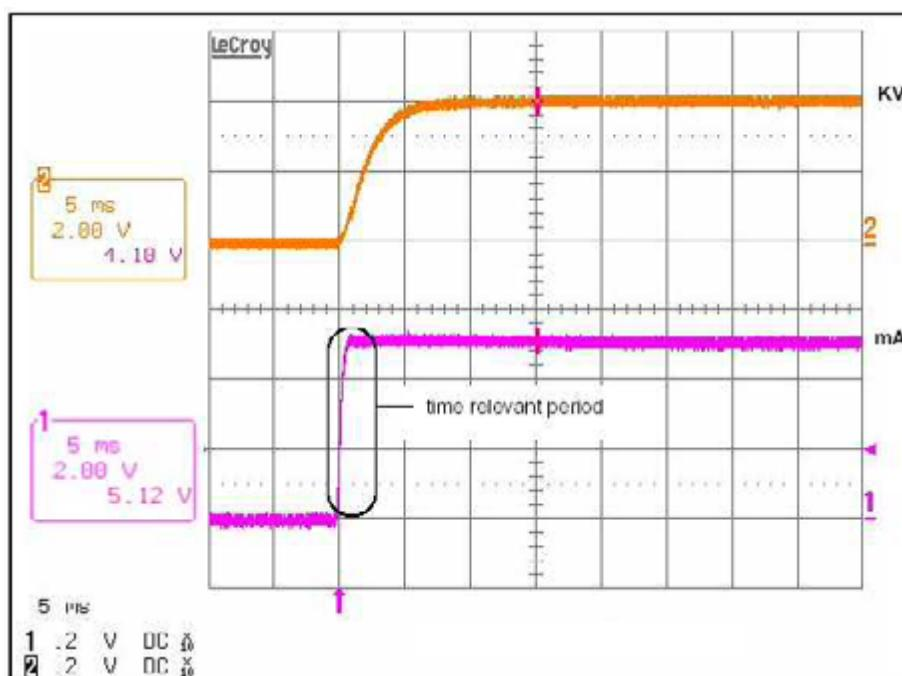

Fig. 1: Generator adjustment
6. Evaluate the oscillogram (Fig. 1 / p. 9), tolerance for the mA curve:
8. If the tube current (Fig. 1 / p. 9) exceeds the specified tolerances, the generator adjustment and the mAs counter adjustment must be repeated.